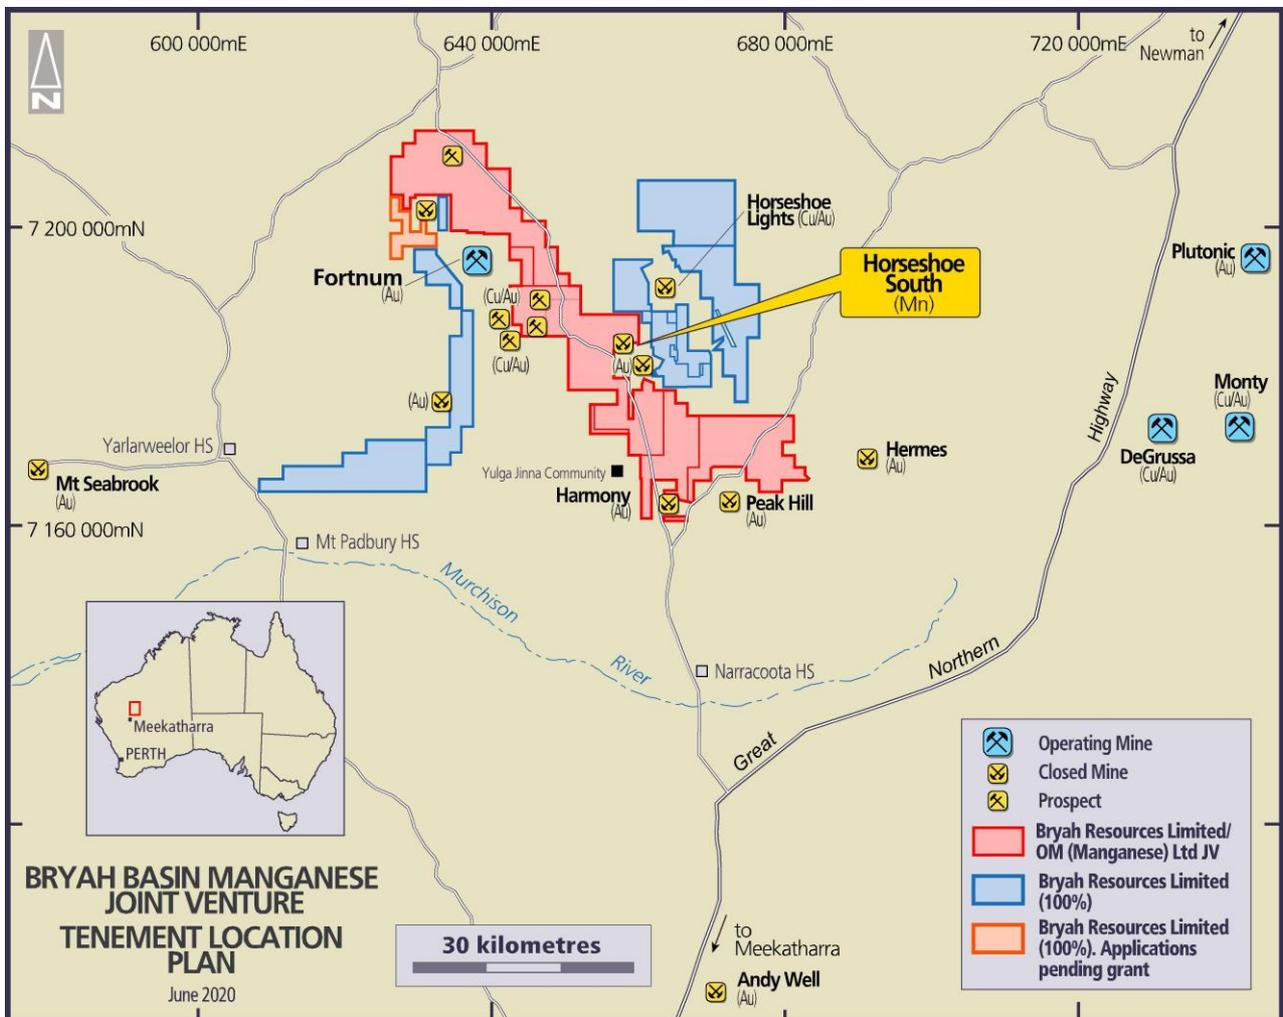
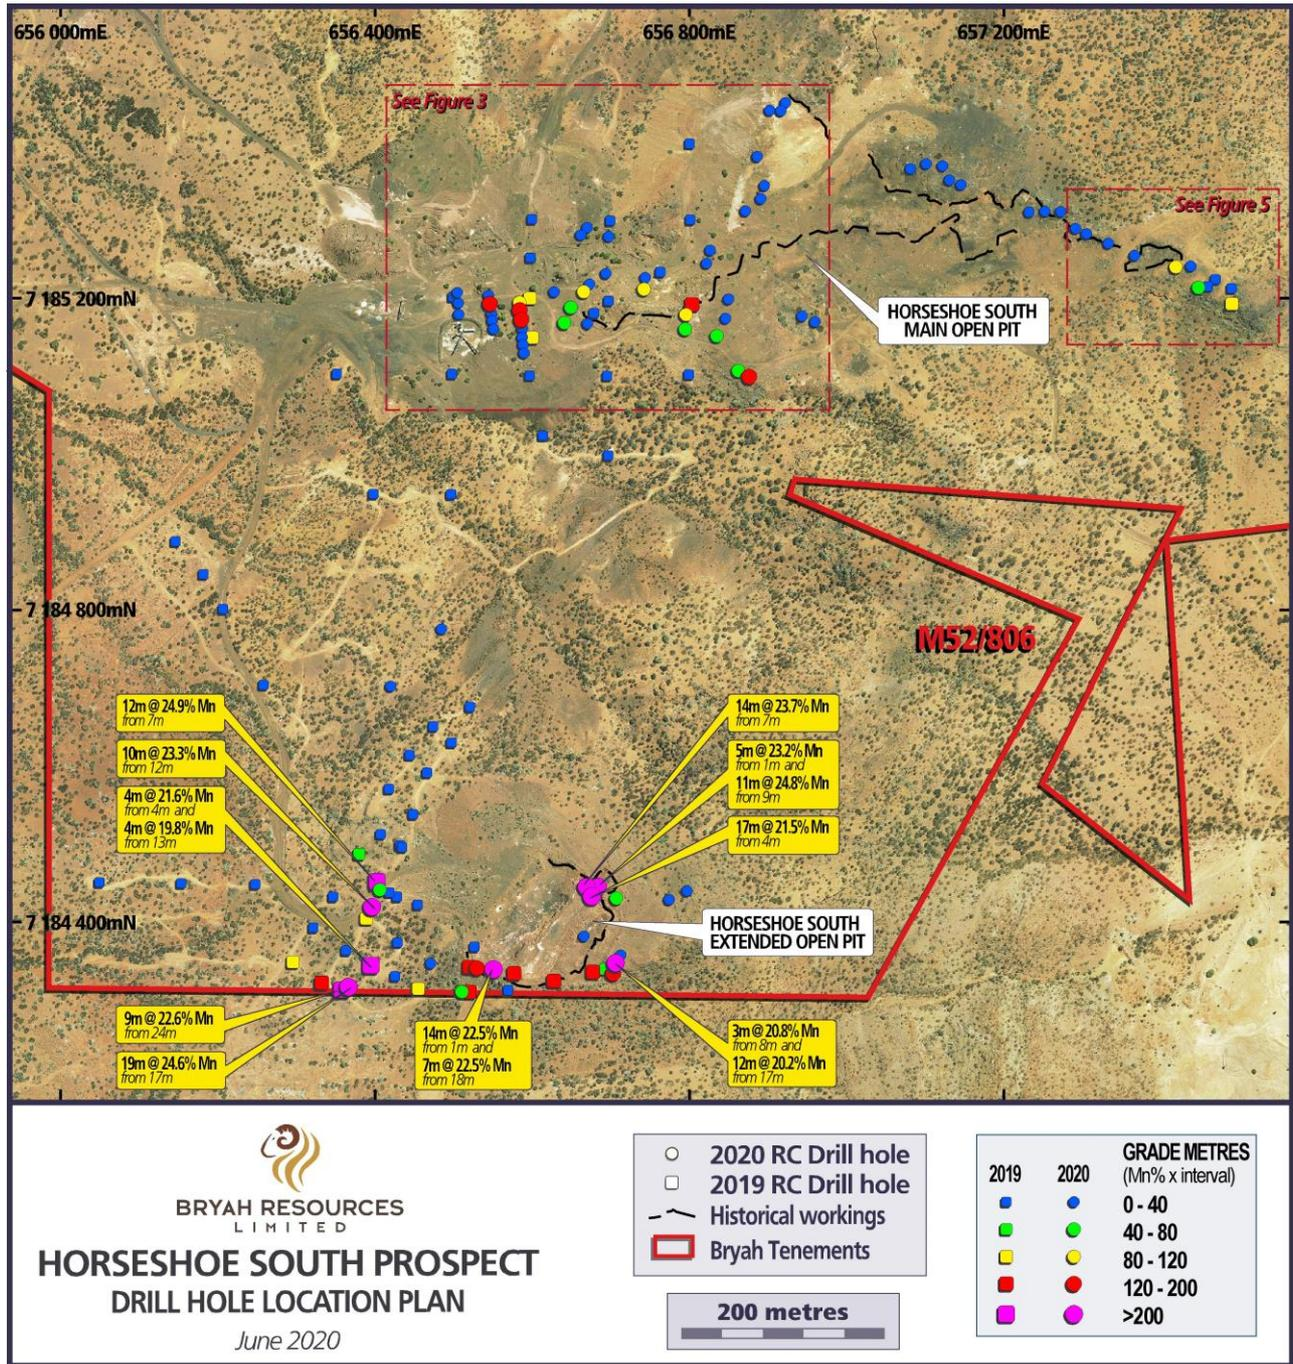

Figure 1: - Project Location Map
Figure 2 - Horseshoe South Prospect Drill Hole Location Plan
Bryah Resources Limited (“Bryah” or “the Company”) is pleased to advise the final set of results from its recent reverse circulation (RC) drilling program at its Bryah Basin Manganese Joint Venture project (80% Bryah/20% OM (Manganese) Limited (“OMM”)), which is located approximately 150 km north of the town of Meekatharra in central Western Australia (see Figure 1).
The historic Horseshoe South Manganese Mine location is shown in Figure 1. The drilling at Horseshoe South was focused on testing for extensions of manganese mineralisation intersected in programs completed in 2019, as well as from previous exploration. Drilling focused on the two pits, being the Main Open Pit and the Extended Open Pit (see Figure 2) with the aim being to identify additional resources that have potential to be developed within this granted mining lease.
The Agreement applies to the rights to manganese only over approximately 660 km² in the Bryah Basin (see Figure 1 and Figure 6).